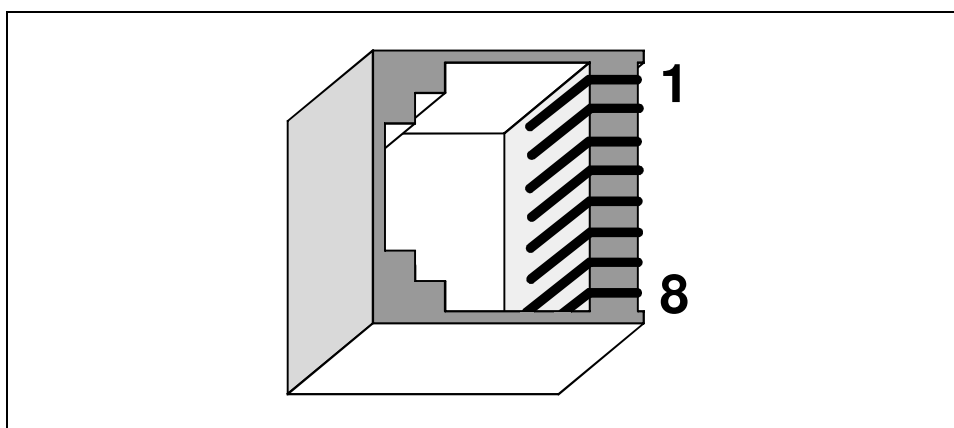

Figure 4 – RJ-45 modular connector
Two standard Ethernet RJ-45 modular connectors (IN, OUT) are provided for the EtherCAT communication. The same pin disposition (same signal) is assigned for both connectors. Figure 4 shows connector RJ-45 used for connection between the drive and the control system.
- 6.2- Fig. 4 shows the position of alert LED, connectors and labels on the case.